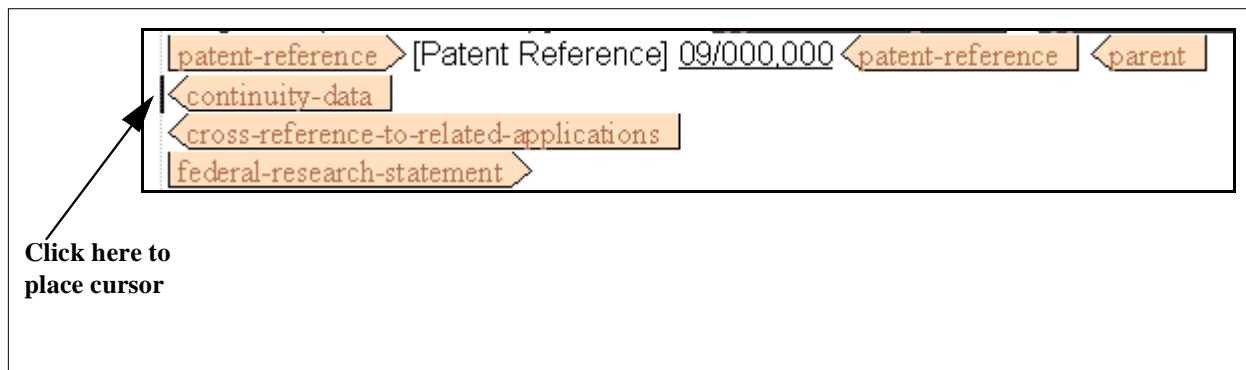

Figure 4-9 Placing Cursor to Continue Continuity Chain
7. To continue the continuity chain the cursor (**Display codes** should still be active) should be to the left of the `</continuity-date>` end tag. If it is not click at position shown in Figure 4-9.